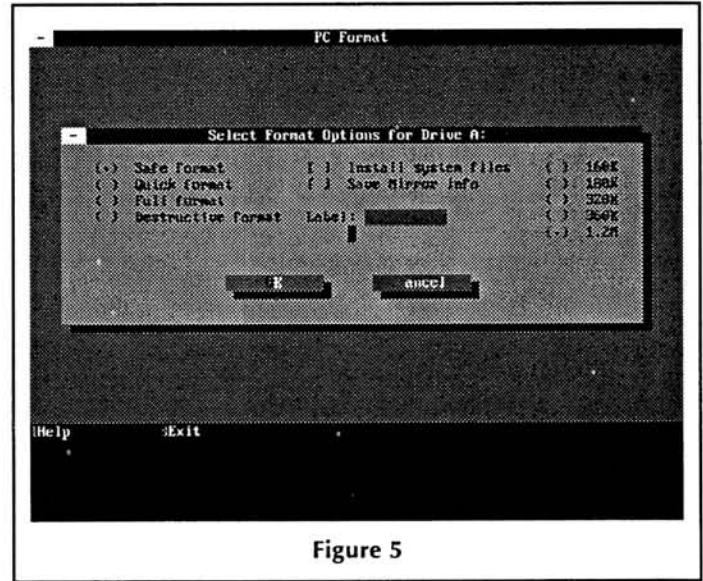

Figure 5
6. PCFORMAT (Figure 5) formats any kind of disk such that UNFORMAT or UNDELETE can recover data.